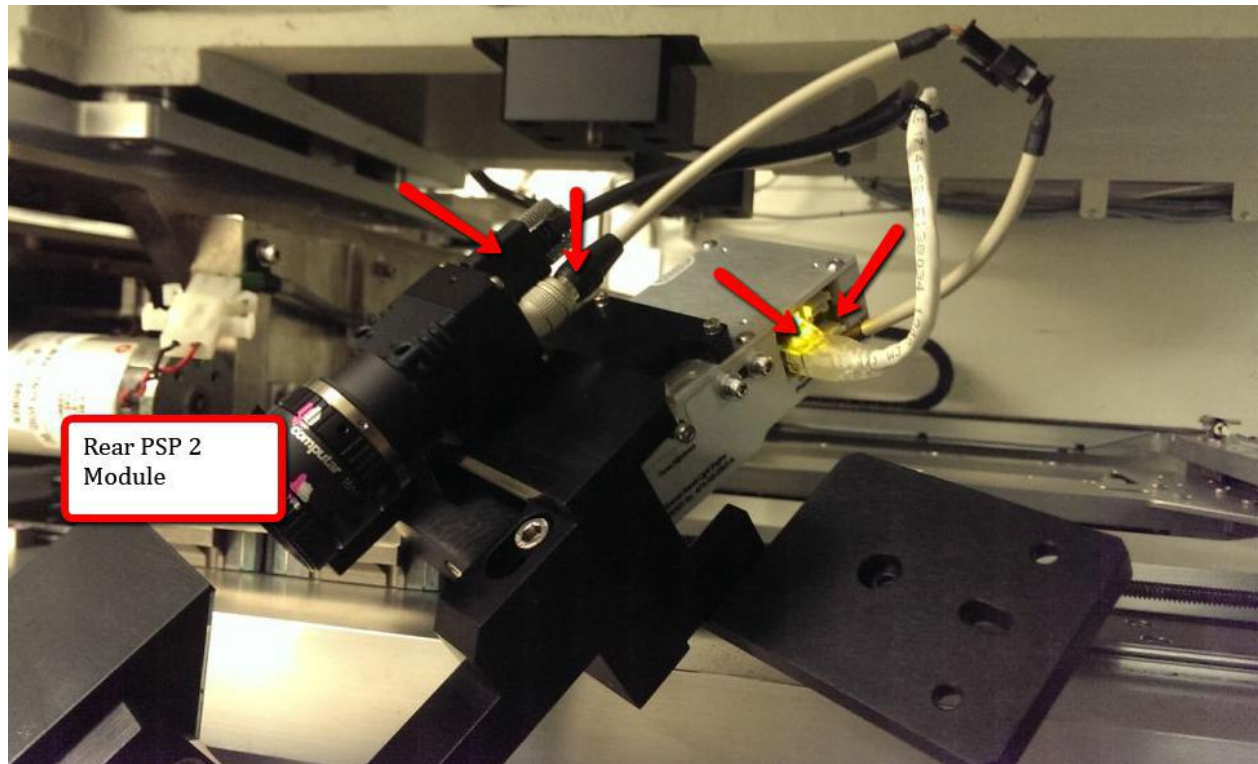

Figure 18 Cable Disconnection
- Remove all cable as Illustrated at below Figure 18.